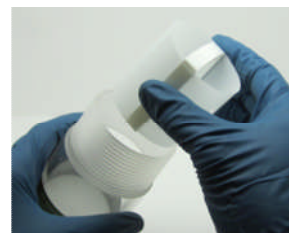

Figure 12
1.8. Inserts suitable colorimetric indicator assembly; see Table 2, (Figures 12 & 13).